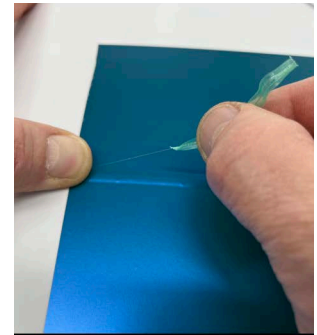

Figure 10.
6. Fold the filament over the graphic. Press your thumb over both the filament and the graphic edge as shown in Figure 10.